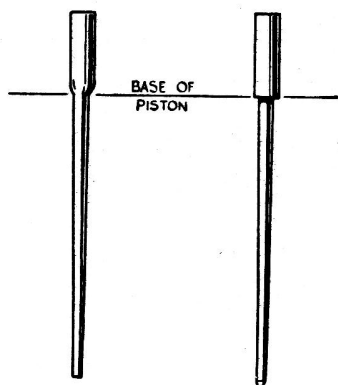

Fig.3.27. Location of the jet needle in the piston
- 4 Fit the needle to the piston assembly so that it is positioned as shown in Fig.3.27. Another type of needle, not illustrated, has a groove instead of the shoulder depicted, the correct position for this type of needle is for the bottom edge of the groove to be level with the bottom edge of the piston rod.